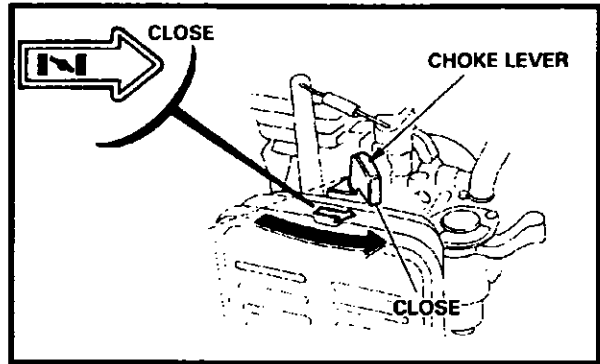

Figure 5-5 Choke Lever - Closed
2. Close the choke lever, Refer Figure 5-5.